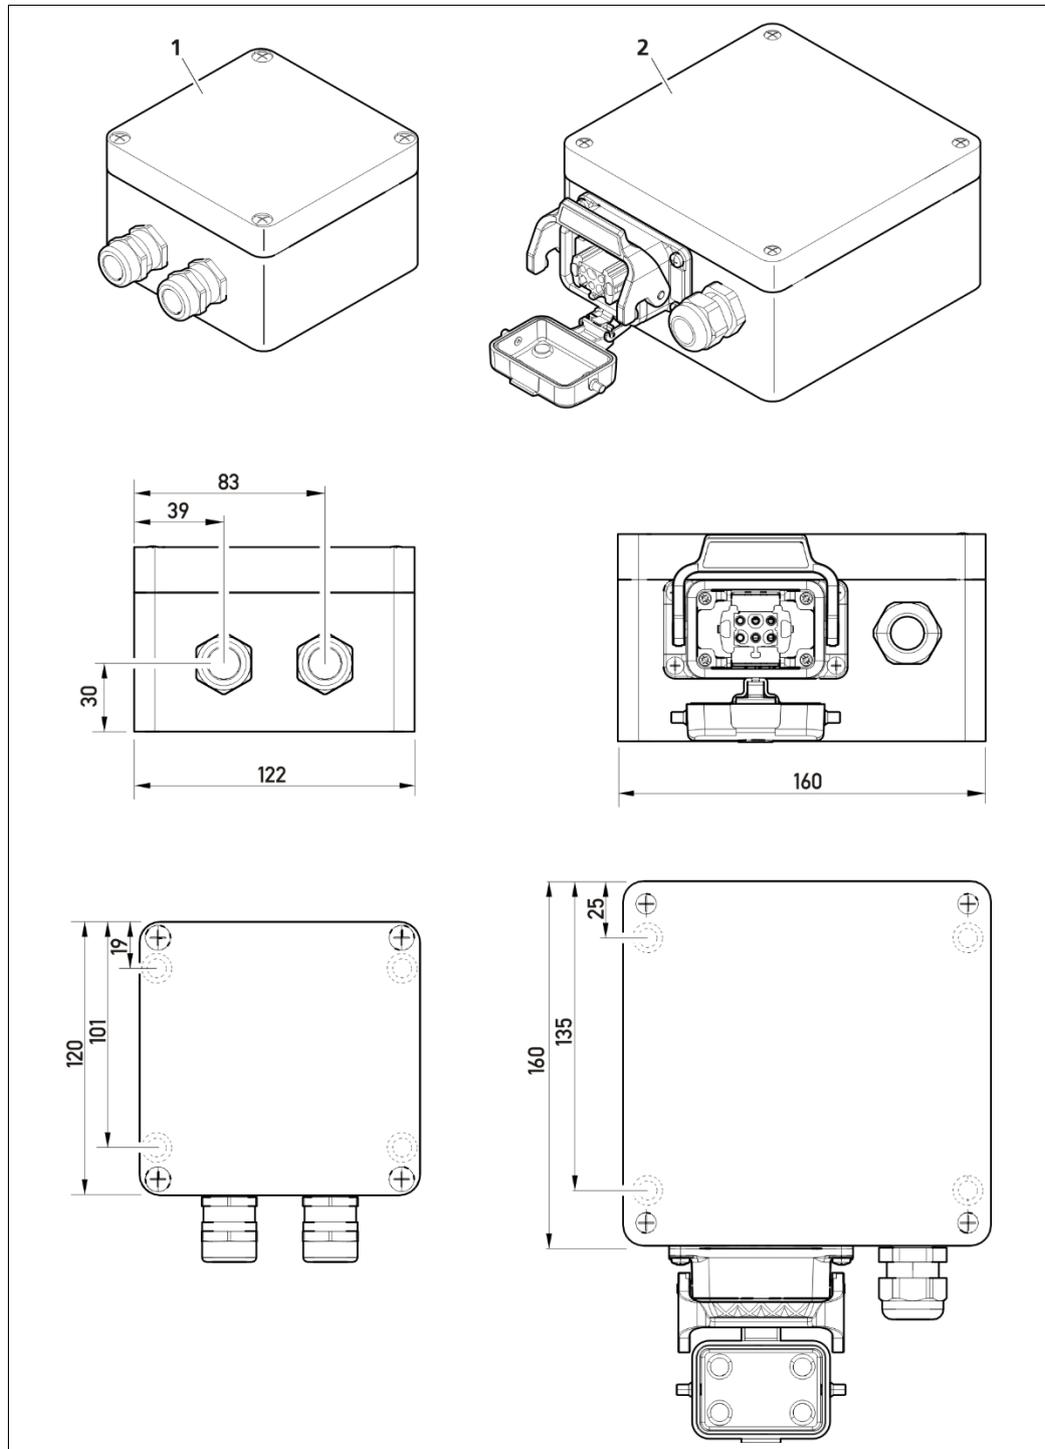

Fig. 8 Terminal Boxes for radiometric Detectors
As required, the terminal box can be ordered for open ends (Id. no. 07005, Fig. 8, item 1) or with a plug-in connector (Id. no. 34787, Fig. 8, item 2).